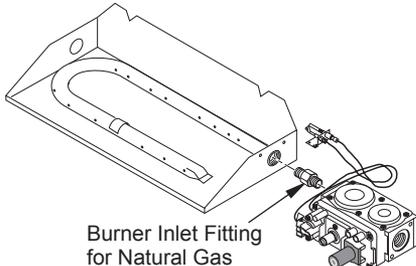
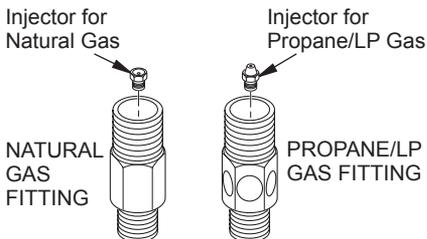
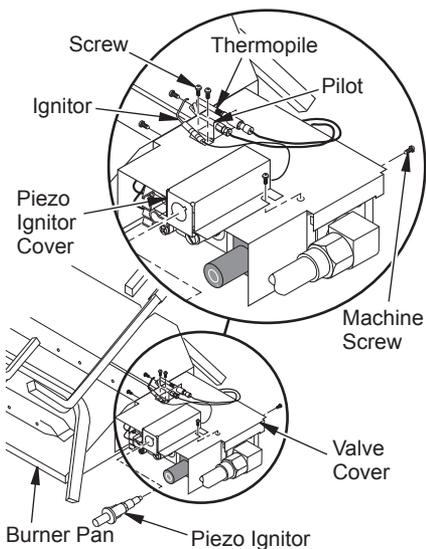

Figure 8 - Remove Burner Inlet Fitting
Figure 9 - Burner Inlet Fittings with Injectors
Figure 7 - Removing/Installing Thermocouple, Pilot, and Piezo Ignitor Cover
1. Remove pilot assembly from valve cover by removing two screws on bracket (see Figure 7).
3. Remove two (2) screws on burner pan and remaining screw on rear of the control valve to remove valve cover.
4. Unthread control valve and burner inlet fitting from burner tube by turning valve counter-clockwise (see Figure 8).
5. Remove natural gas inlet fitting from control valve and discard (see Figure 8). DO NOT remove orifice from this fitting. The propane/LP burner inlet fitting is included in the hardware kit (see Figure 9).
8. Rethread valve and fitting assembly into burner tube until fully threaded and level with burner pan. Reattach valve cover with three (3) screws previously removed in step 3.
4. Reattach pilot and piezo ignitor assembly to valve cover with screws previously removed (see Figure 7, page 8).